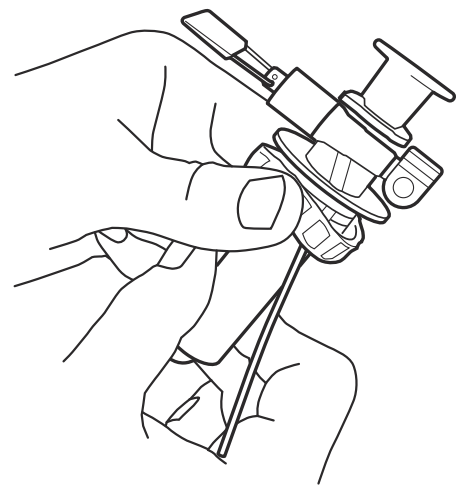

Figure 14-14. Remove the Pump Seal.
- Inspect pump seal and replace, if damaged (see fig. 14-14 on page 14-17).